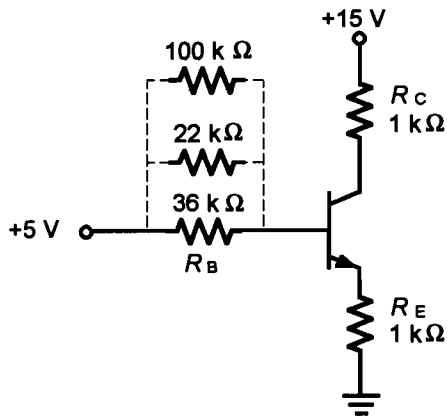

Figure 11.1
1. Build the circuit shown in Figure 11.1.
3. In step 4 of the experiment, you calculated the beta of the transistor used in the experiment. Using the beta box model for the circuit of Figure 11.1, predict the value of collector current for a transistor with beta 50% larger than your calculated value.